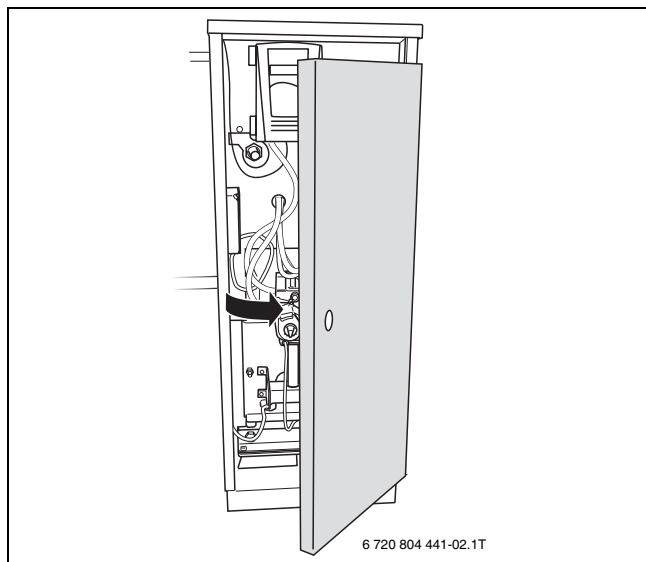

Fig. 2 Open boiler front door
- ▶ Open boiler front door (→ figure 2).